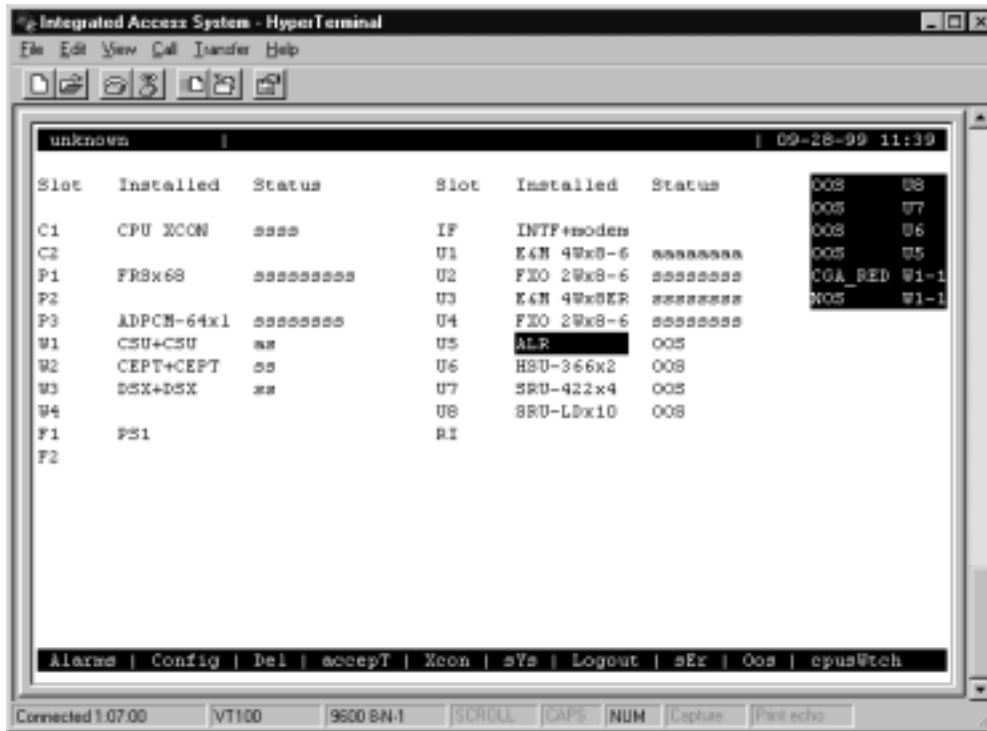

Figure 4-32. Typical System Main Screen with Alarms
6. The system automatically builds the necessary time slot structure. Since the user slots are vacant, the system will register Out Of Service (OOS) alarms for each of the four cards, as shown in Figure 4-32.